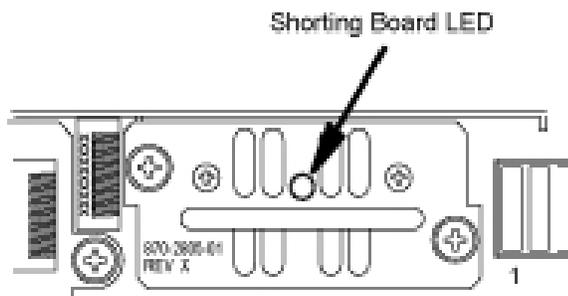

Figure 7: Shorting Board Faceplate, Normal Mode
4. Turn the Shorting Board over and reinsert the board into its slot. Note the orientation of the Shorting Board LED (see *Figure 7: Shorting Board Faceplate, Normal Mode*).